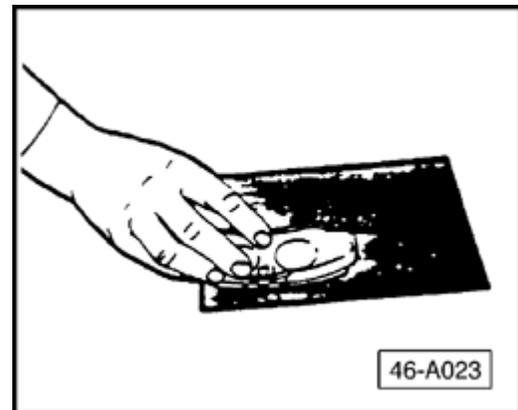

Figure 2. *Cleaning face of the brake pad with sandpaper.*
5. Clean face of the brake pad with sandpaper (Figure 2).